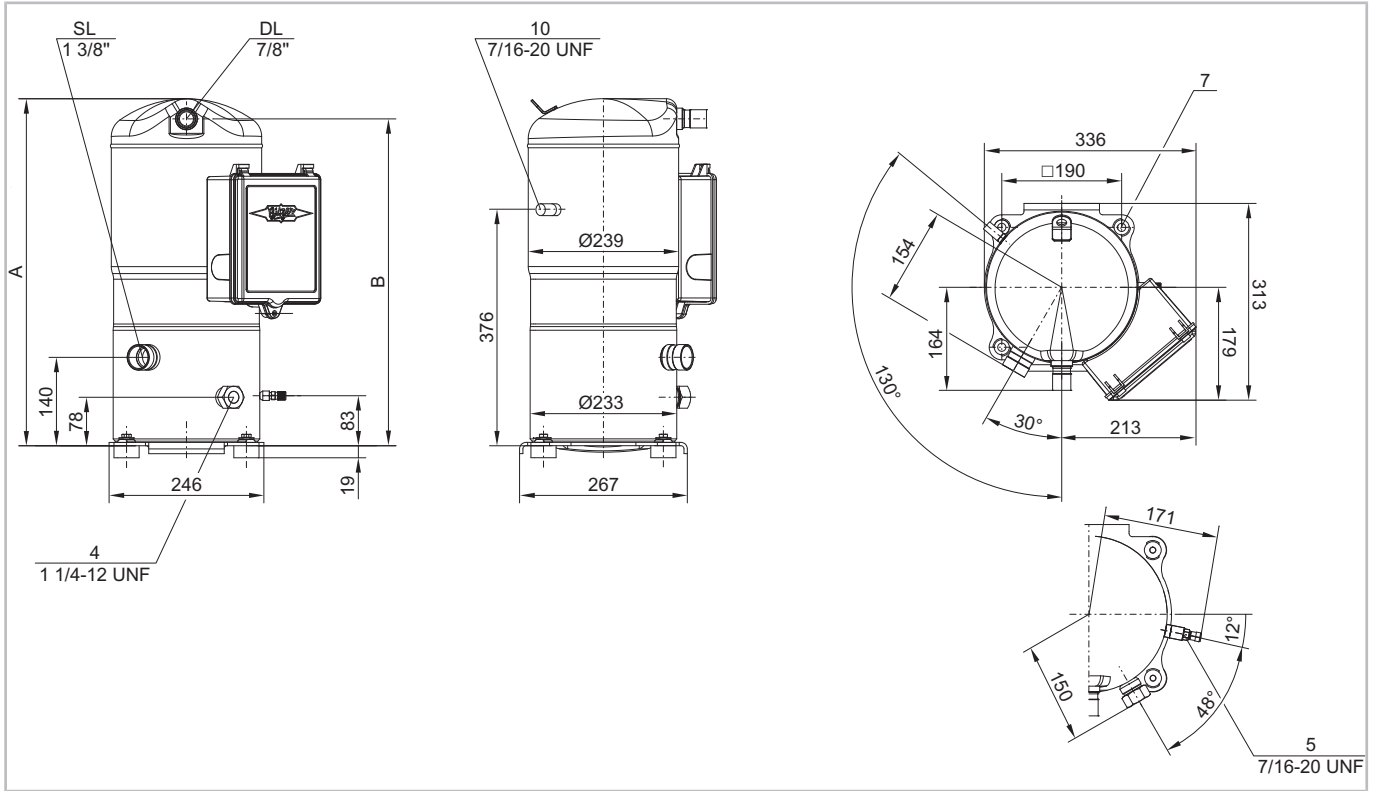

Fig. 2: Dimensional drawing ORBIT FIT: GED60120 .. GED60235
- ▶ Install a suction accumulator upstream of the compressor's suction gas connection (position SL, *see figure 2, page 22*) in systems with a high amount of refrigerant charge.